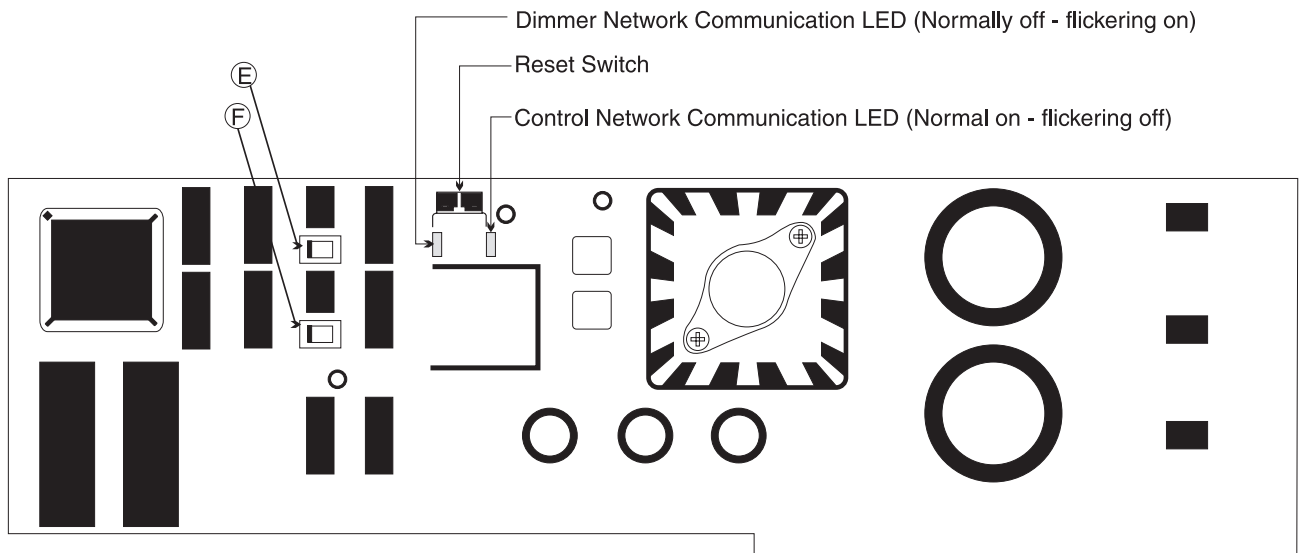

Figure 2 - SQM9 SYSTEM CONTROLLER BOARD
- e) Verify that rebooting was successful by noting that LED's behind reset switch are operating normally as indicated in figure 2 and that the control station channel bargraphs and dimmers are at full intensity. If reboot was not successful repeat a-d.